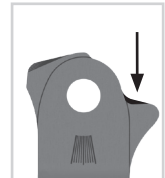

fig. 23
- 1 Grind the system stirrup slightly in the nose area (fig. 23).